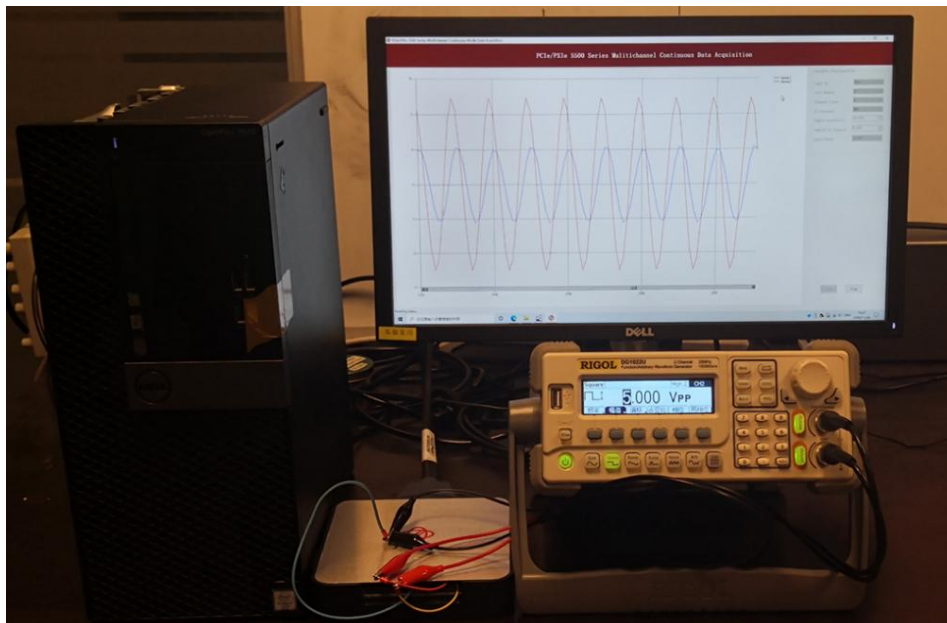

Figure 3 PCIe-5114-H7 experiment
- Connect the two signal source's positive outputs to PCIe-5114-H7 AI Ch0 (AI0+, Pin#18) and AI Ch1 (AI1+, Pin#19), two negative terminals to the ground (AI\_GND, Pin#17) as shown in Figure 3 and 错误!未找到引用源。 (AI0+, AI\_GND) and (AI1+, AI\_GND) consist of two channels of RSE inputs and they share the same GND.
- Connect the two signal source's positive outputs to PCIe-5114-H7 AI Ch0 (AI0+, Pin#18) and AI Ch1 (AI1+, Pin#19), two negative terminals to AI Ch0 negative (AI0-, Pin#52) and AI Ch1 negative (AI1-, Pin#53) as shown in Figure 3 and 错误!未找到引用源。 . (AI0+, AI0-) and (AI1+, AI1-) consist of two pairs of DIFF inputs;
- Connect the signal source's positive terminal to PCIe-5114-H7 AI Ch0 (AI0+, Pin#18), the negative terminal to the ground (AI\_GND, Pin#17) as shown in Figure 3 and 错误!未找到引用源。 . (AI0+, AI\_GND) consists of a RSE input.